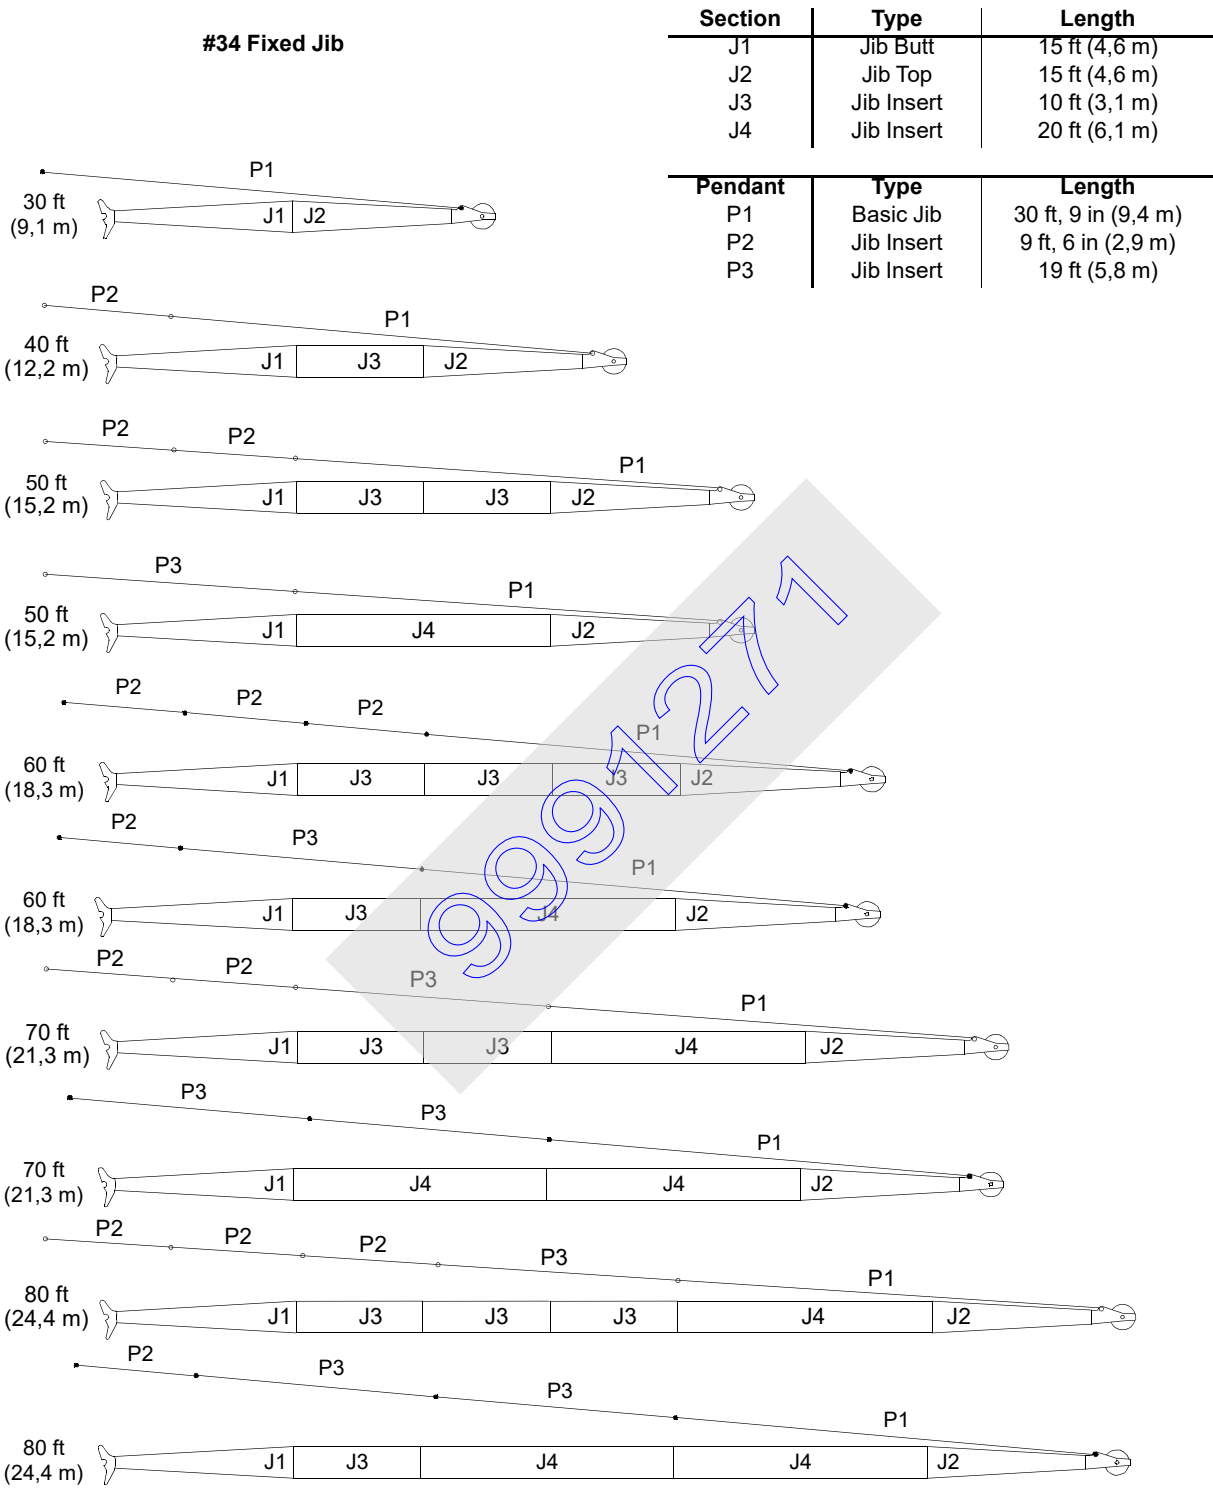

FIGURE 4-48
**NOTE:** See Jib Rigging Drawing at the end of this section for required number of jib inserts and pendants for each jib length. See Figure 4-48 for additional assistance.